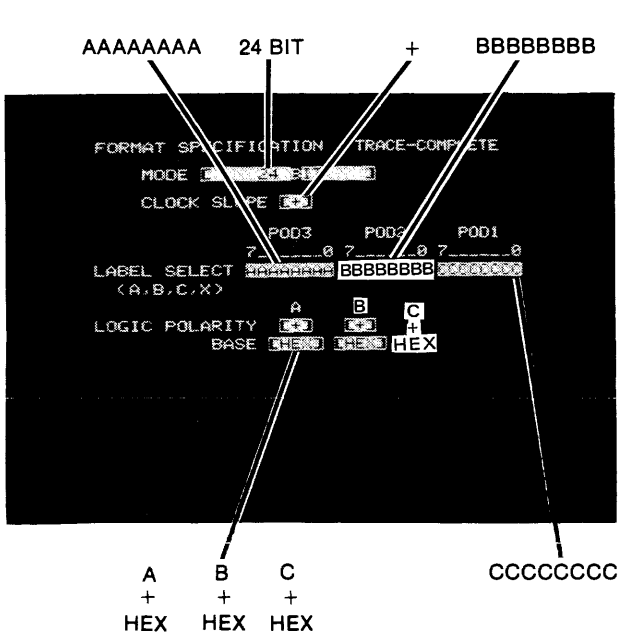

Figure 4-4. Format Specification for Clock, Qualifier, and Data Inputs Tests
- d. Use CURSOR keys to move cursor to each field in menu. Set up menu according to figure 4-4.